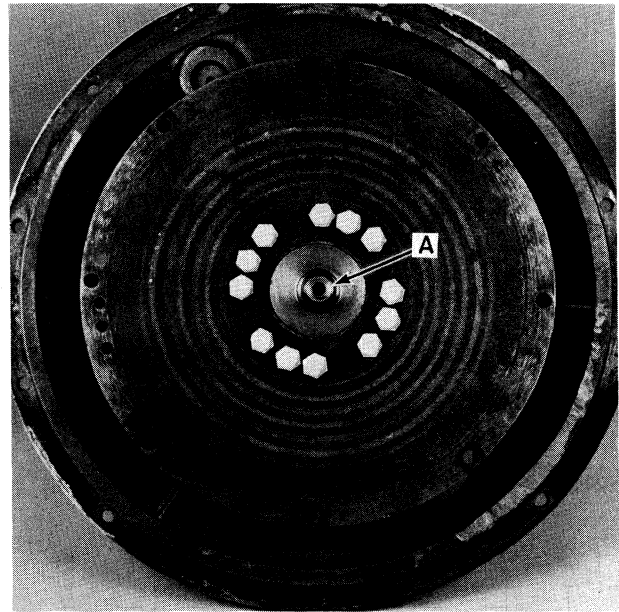

FIGURE 5A-30
13. Coat pivot pin, A, Figure 5A-29, with antiseize compound. Install pivot pin, A, into housing, B, until a depth of 47/8" (124 mm) is achieved. Tighten setscrew, C, and jam nut, D.